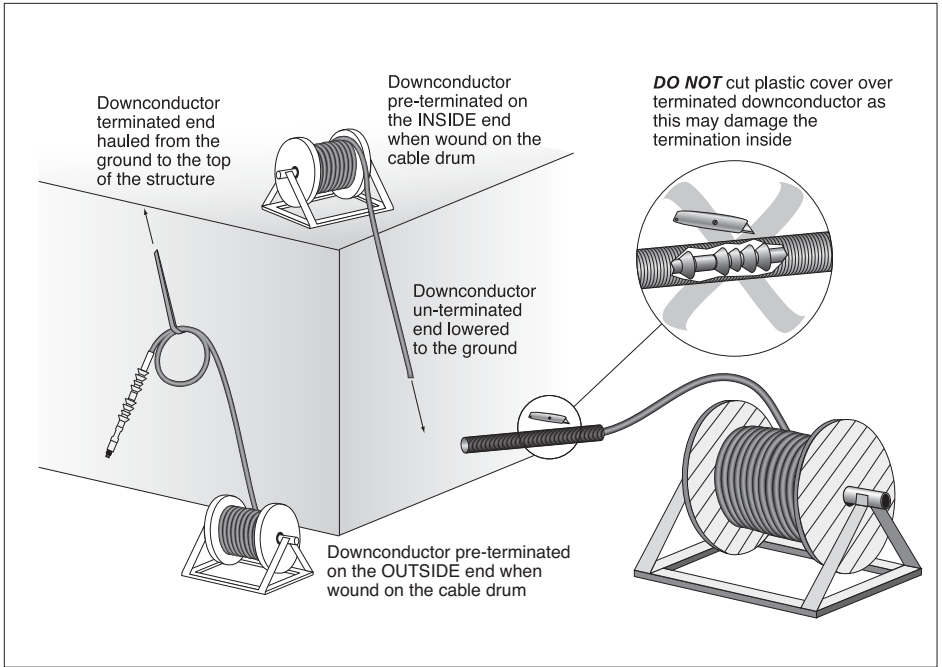

Figure 6: Cable pre-termination and drum locations.
It is VERY IMPORTANT that when removing these tubes, they are not removed with a knife or cut in any way as this will damage the outer layer of the termination. It is suggested that the tape and cover are best removed by hand. (See figure 6)
Locate the downconductor cable drum at the appropriate location, (refer to figure 6).
- If the downconductor has been upper terminated on the inside of the drum, then the drum must be at or near the top of the structure, so that the downconductor can be unwound from the drum towards the base, (see figure 6).